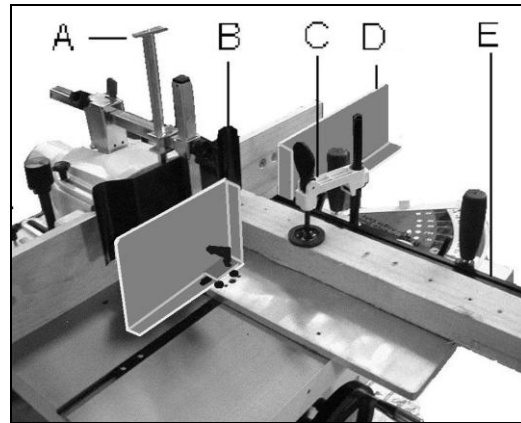

Fig 25
The wood press (C, Fig 25) and the miter gauge profile (E) assure the stability of the workpiece.